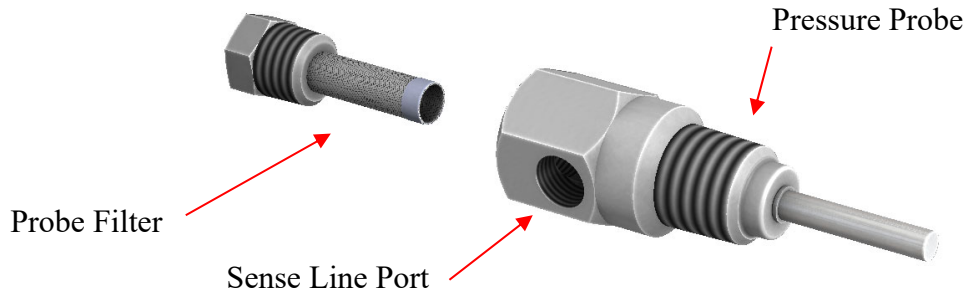

Figure 17: Typical Filter and Pressure Probe from a Pilot Operated Relief Valve
2. Remove the probe filter from the pressure probe subassembly. See Figure 17.